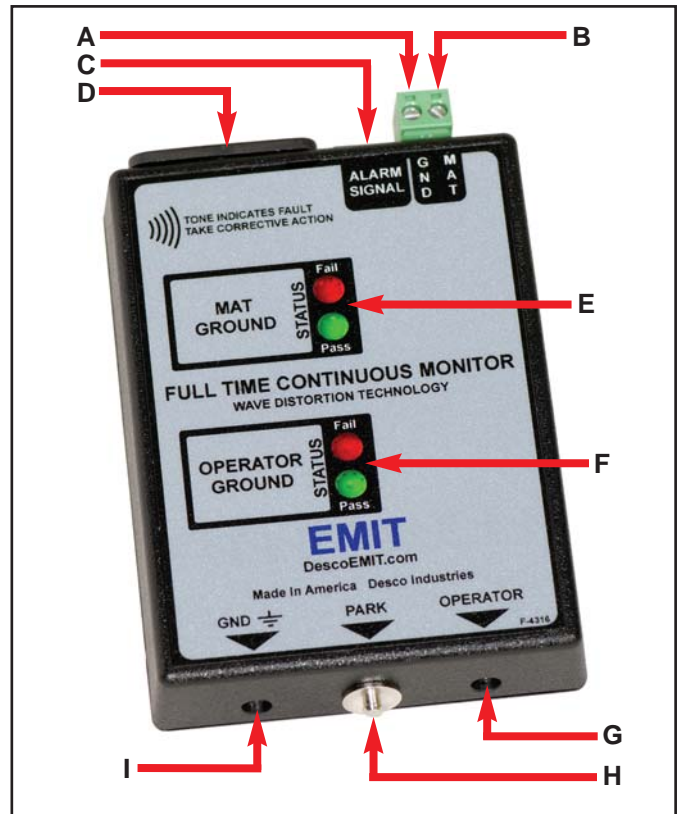

Figure 2. Full Time Continuous Monitor features and components
Features and Components (See Figure 2)
1. Plug a wrist strap cord, not attached to the wristband, into the monitored banana jack labeled OPERATOR on the front of the unit (See Figure 2). This automatically activates the selected operator channel. The red operator LED should illuminate.